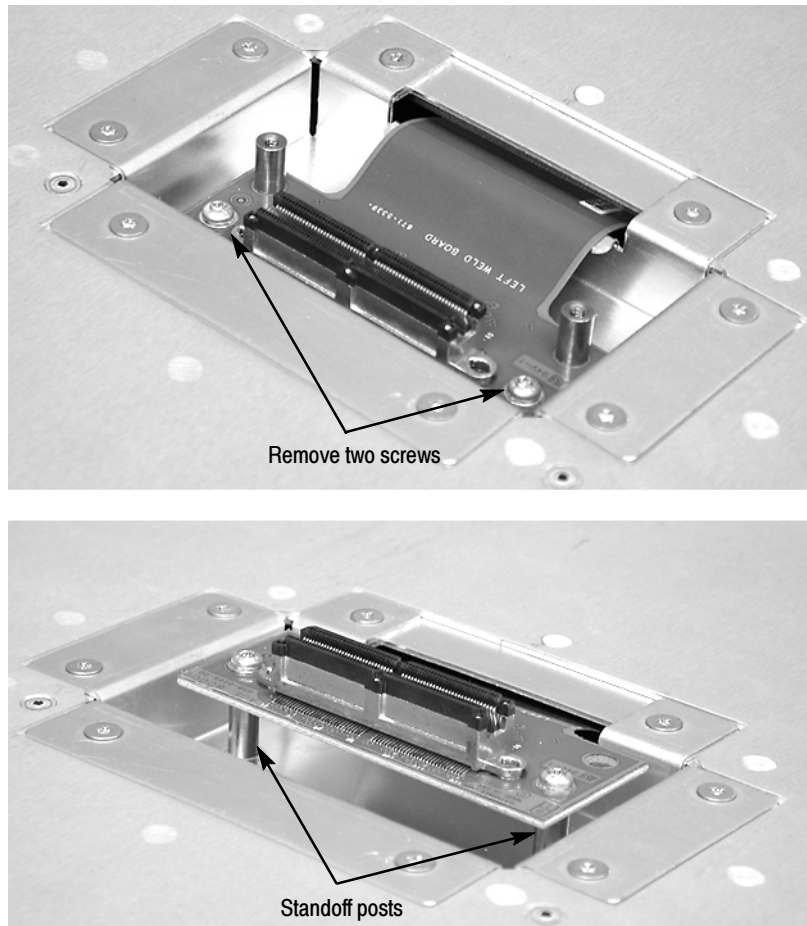

Figure 17: Removing the merger connector assembly from the module
2. Using a Torx T-10 screwdriver, remove the two screws holding the merge connector to the module (see Figure 17).